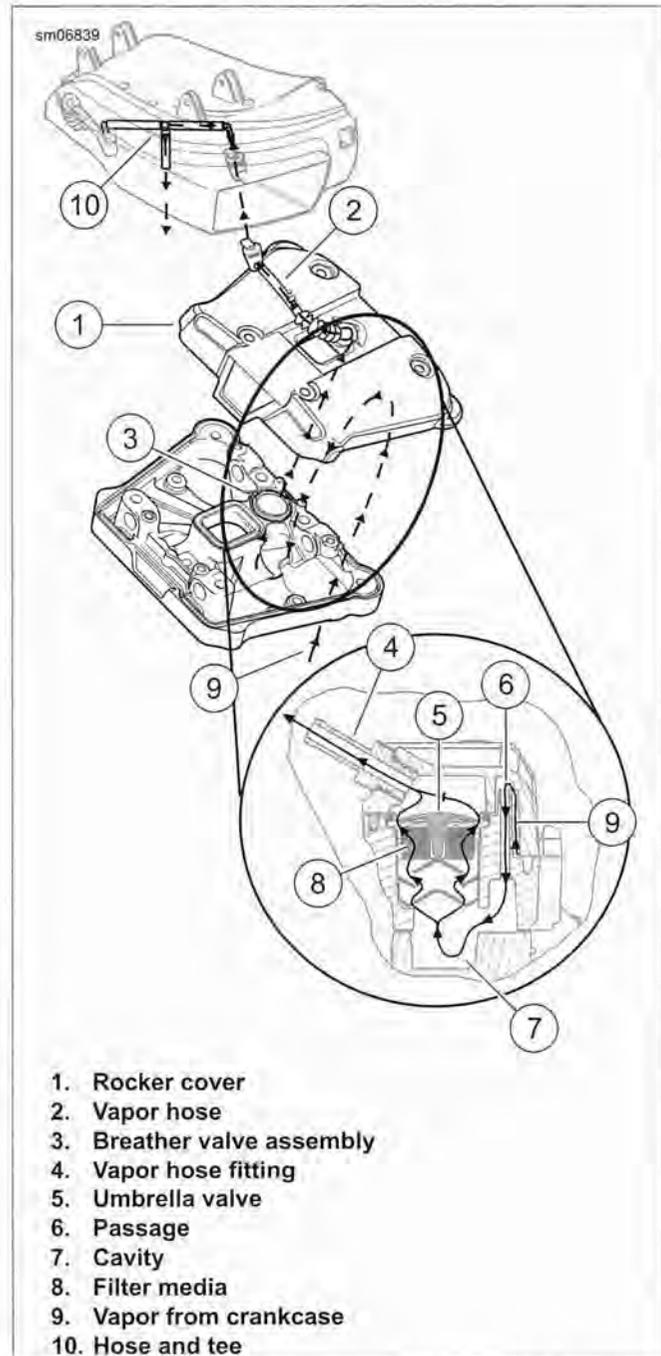

Figure 3-7. Crankcase Breathing System: XR 1200X
See Figure 3-7. During the piston downstroke, internal crankcase pressure increases, forcing a vapor (9) of crankcase air and oil mist into the area around the rocker arms and valve springs. The vapor travels down through two passages (6) in the inner rocker cover into a cavity (7) between the cylinder head and inner rocker cover. The vapor then moves into the filter media (8) of the breather valve (3).